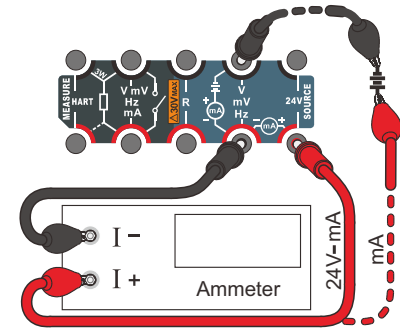

Figure 8.15 Current Source
1. Figure 8.15 shows the current source connections.